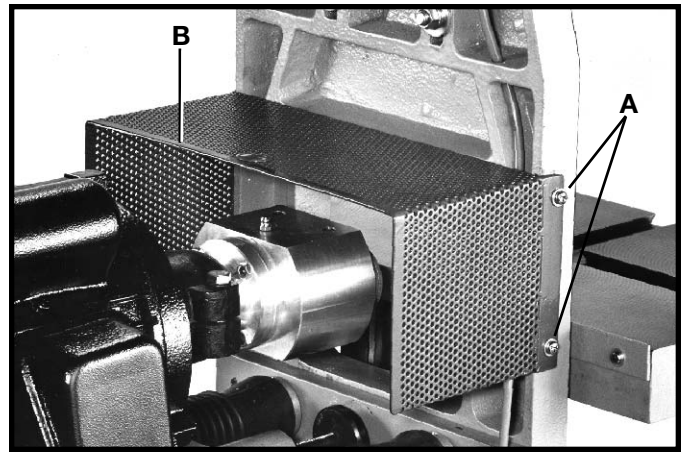

Fig. 14
2. Remove four screws, two of which are shown at (A) Fig. 14, and remove safety shield (B).